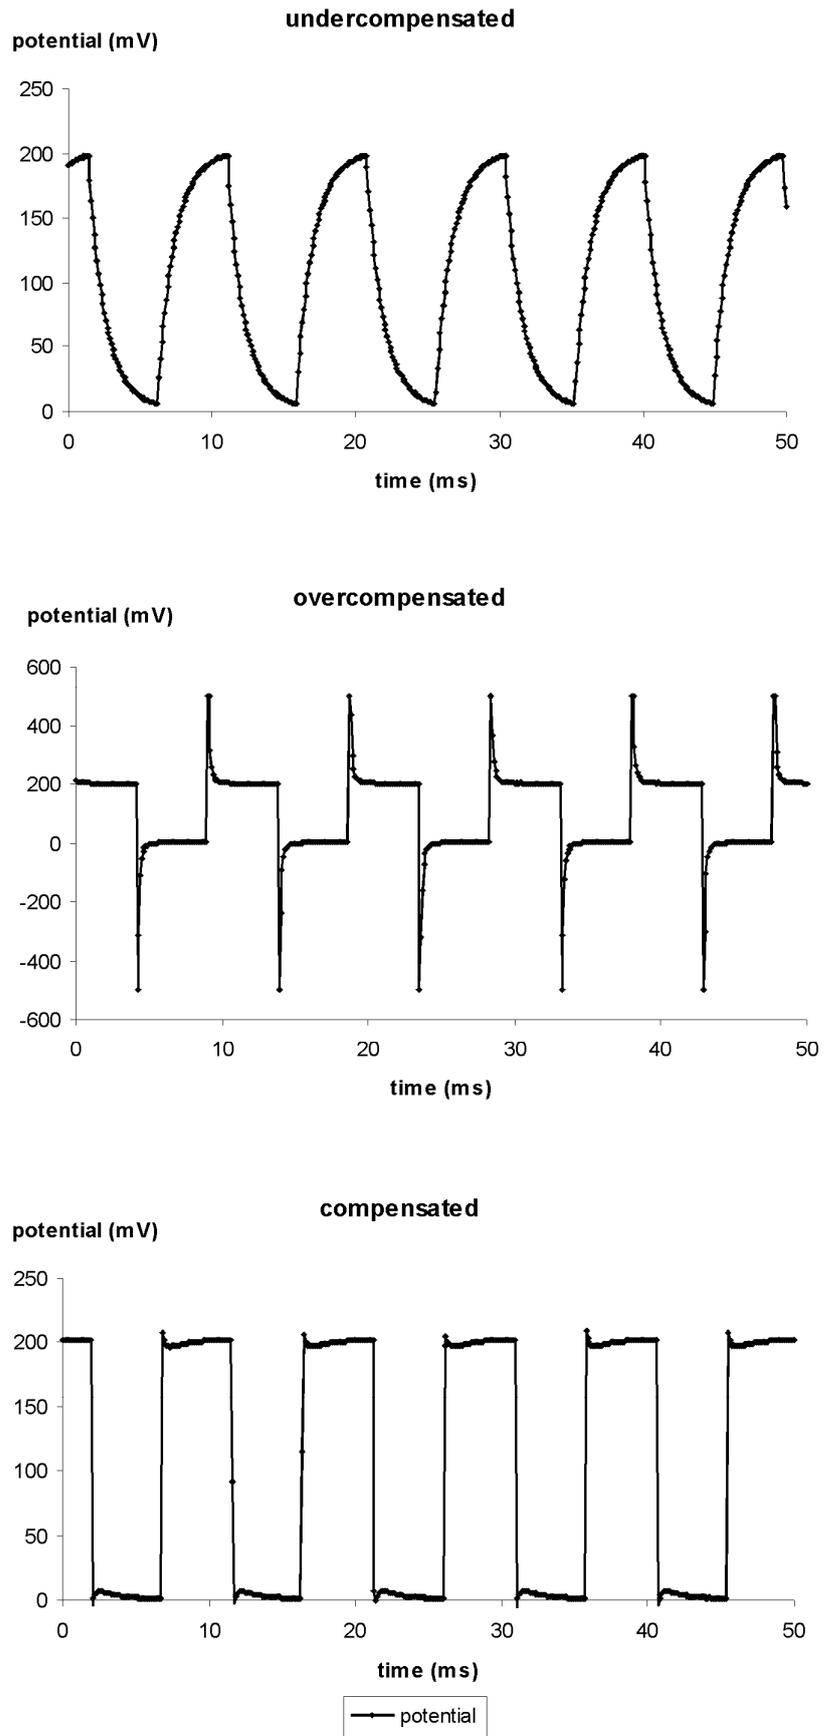

Figure 9: Tuning of the capacitance compensation using a 100 MΩ resistor
With the cell model connected or the electrode in the bath the CAPACITY COMP. control is turned clockwise until there is no capacitance artifact on the POTENTIAL OUTPUT (see Figure 9).
- Compensate the input capacitance as shown in Figure 9 using the CAPACITY COMP. potentiometer (#17, Figure 1).
Figure 9 illustrates the capacitance compensation procedure using a 100 M Ω resistor that represents the electrode. The pulses were generated using the automated electrode resistance test circuit of the BA-03X. The upper diagram shows an undercompensated capacitance. In the diagram in the middle the capacitance is slightly overcompensated and in the lower diagram it is well compensated.
- Immerse the electrode into the bath (not in a cell) as deep as necessary during the experiment. Test the capability of the electrode to carry current (see chapter 7.4), compensate the potential offset (see chapter 7.2), measure the electrode resistance (see #33, chapter 3.2) and compensate the input capacitance (see chapter 7.3 and Figure 9).